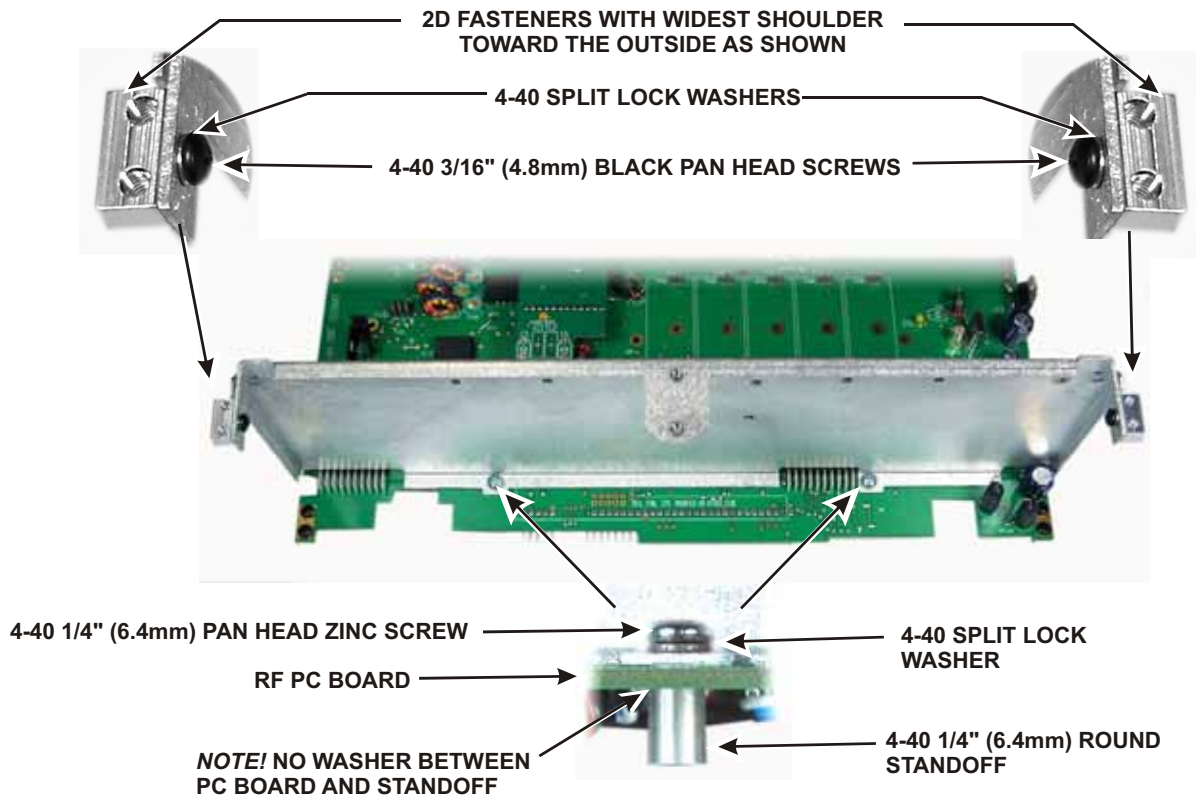

Figure 13. Installing Front Panel Shield.
□ Mount the front panel shield on the RF board as shown in Figure 13, then mount a 2D fastener on each ear at the top of the shield as shown. Be sure the 2D fasteners are oriented with the widest part between the two holes and the edge toward the outside as shown.